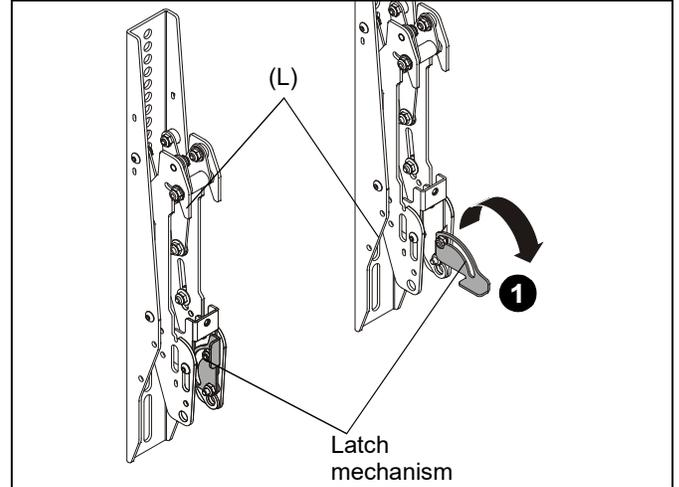

Figure 15
- Lower the latch mechanism on each interface bracket (L). (See Figure 15)
1. Ensure that the latch mechanisms on interface brackets (L) are already lowered. (See Figure 15)